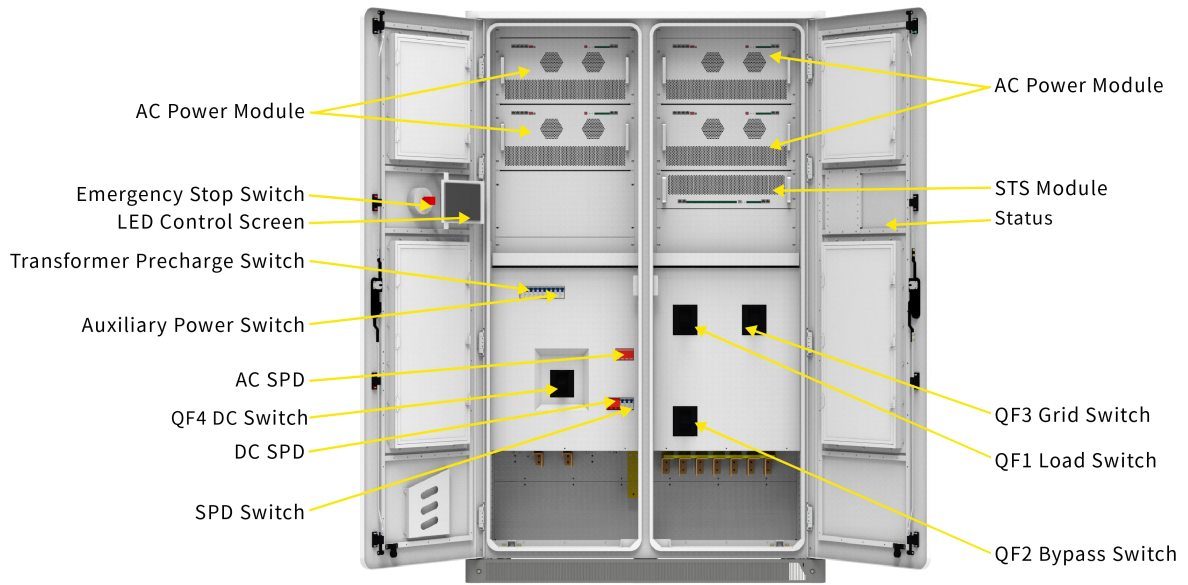

Figure 4.1 AC Energy Storage Cabinet ESS-GRID P500E Distribution Switch Location Diagram
Refer to Fig. 4.1, the circuit breakers are all in the open position; the indicator mark of the lightning protector is green.
- 2) Referring to Fig. 4.1, close the transformer pre-charging switch MCB2 and auxiliary power switch MCB3~4, close the QF3 utility switch, complete the transformer soft start, close the QF1 load switch, and close the QF4 DC switch (when using the QF2 bypass switch for equipment maintenance, remember to disconnect the QF1 load switch first).
- 2) Referring to Fig. 4.1, disconnect the system transformer pre-charge switch MCB2, auxiliary power switch MCB3~4, split QF1 load switch, and split QF4 DC switch;
- 2) Referring to Figure 4.1~3, disconnect all auxiliary power switches, AC and DC molded case switches, and battery DC load switches of the system;
After pressing "EPO" emergency shutdown, you need to refer to Fig. 4.1~3 to turn off all auxiliary power switches, AC/DC molded case switches, and battery DC load switches, and wait for the HMI touch panel to be powered down for 10min before powering on!
- Referring to Figure 4.1, close the transformer pre-charging switch MCB2 and the auxiliary power switches MCB3~4, close the QF3 utility switch, complete the transformer soft start, close the QF1 load switch, and close the QF4 DC switch (when using the QF2 bypass switch for equipment maintenance, remember to disconnect the QF1 load switch first).